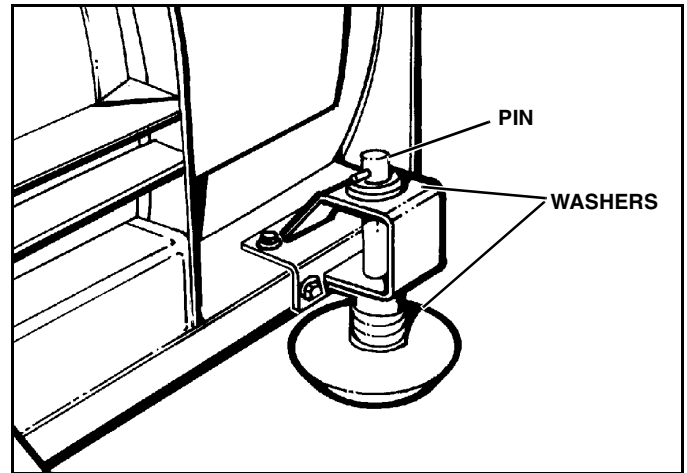

Figure 3-4
5. Adjust shoe assemblies by removing shoe mounting pin and adding or subtracting washers on the top or bottom of the shoe mounting bracket. (See Figure 3-4)